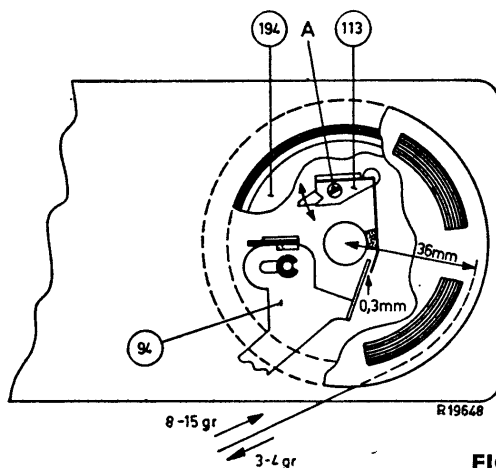

FIG. 6
(b) In the "play" position, the force necessary to overcome the friction in the clutch drive (40 and 40b), should lie between 8 and 15 grammes. This should be measured with a full 3" reel of tape on the R.H. turntable, and the tension gauge attached to a loop made at the end of the tape (see Fig. 6).
(a) Forward Wind. In the "off" position, the forward wind pulley 47 should be spaced at least 0.5 mm. from the flywheel 17 and the R.H. turntable 194 (see Fig. 6). This can be adjusted by bending the operating bracket 44, but care should be taken to ensure that the end of the bracket 44 is spaced at least 0.4mm. from the bottom plate 18 when the forward wind button is
- (c) Friction-pad and spring assembly 113. The "free" end of this spring should be 0.3 mm. from the lip on brake bracket 94. If necessary this can be adjusted by bending the lip of brake bracket 94 (see fig. 6). When either the "record/play" or "forward wind" buttons are depressed, the felt friction-pad is pushed clear of the turntable hub (underside). During re-wind, this pad should maintain slight pressure on the turntable hub and may be checked as follows. Attach a tension gauge to a loop made at the end of a full 3" reel of tape and with the "re-wind" button depressed, a force of 3-4 grammes should be required to overcome the pad pressure. Adjustment of pressure is made by slackening screw "A" (see fig. 6).